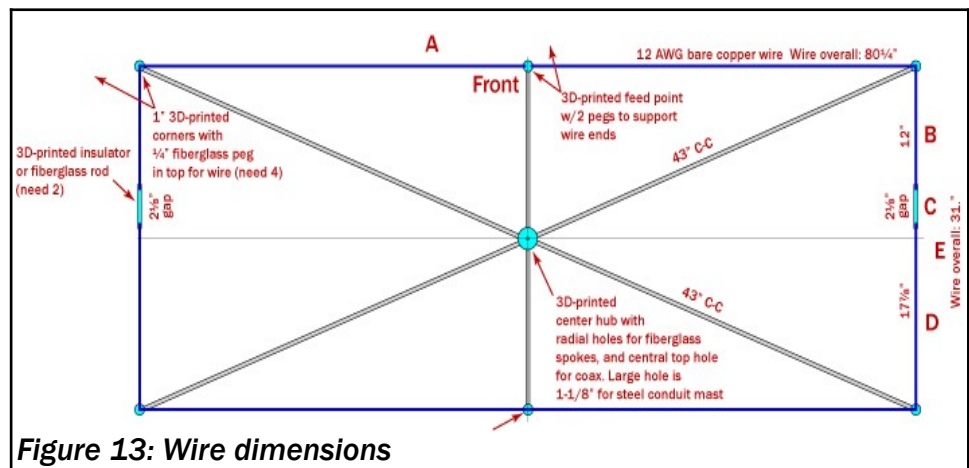

Figure 13: Wire dimensions
Figure 13 is a bare-bones version of the Moxon plan that emphasizes the antenna wire sections A (top), B, C, D, and E (right). We will use these labels and dimensions when stringing the wire.
- a) Start at the upper-left corner peg in **Figure 13**. Feed a length of wire at least 108"(A,B) long through "end" side of the hole in that peg. Lengths are:
- c) Bend the short portion of the wire so it is *perpendicular* to the front of the frame, pointing toward the lower-left peg in **Figure 13**.
- i) Again start at the left end of **Figure 13**. Feed a length of wire at least 118”(A,D) long through the lower-left corner peg, through the single reflector insulator peg, and through the lower-right corner peg. Lengths are:
- k) Bend the short portion of the wire so it is *perpendicular* to the front of the frame, pointing toward the upper-right peg in **Figure 13**.